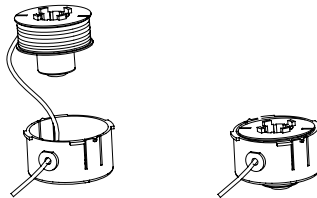

FIG 11
5. Insert the line through the eyelet in the spool carrier and slide the spool into it. (FIG 11)